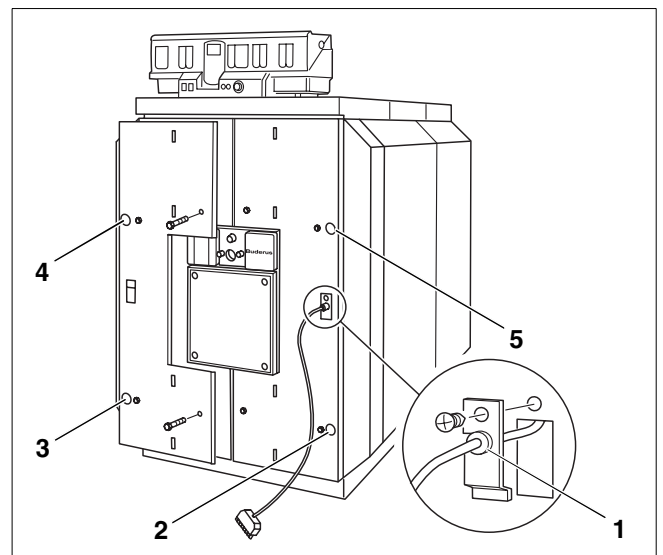

Fig. 56 Assembly – Fitting burner door cladding
- Clip the strain relief on the burner cable into the cable lead-through (Fig. 56, **ref. 1**).
- Fit the burner door cladding to the burner door from the front and bolt it to the door with four machine bolts (Fig. 56, **ref. 2 – 5**).